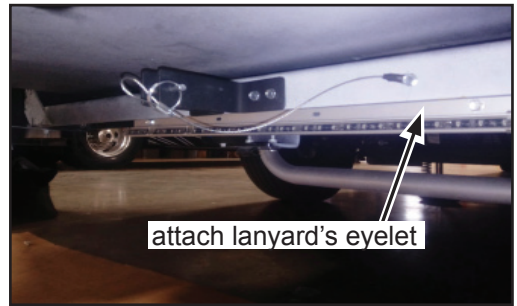

Figure 18
20. Once the fit is verified, remove the pin and reopen the generator slide-out tray. Referring to the orientation shown in Figure 18, pre-drill a 5/32" diameter pilot hole and mount the lanyard's eyelet using a #10 self-tapping screw. Ensure there is minimal slack in the lanyard.